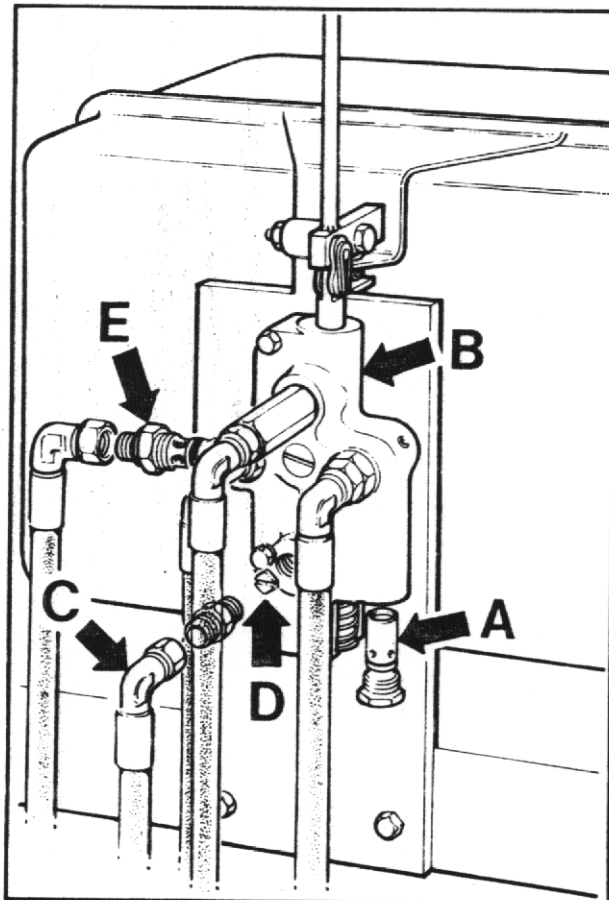

FIG. 7
4. Remove relief valve cartridge (A) (hexagon head) from the bottom of the control valve (B) (See Fig. 7), and replace with new one.
5. Remove hose adaptor (C) from control valve (See Fig. 7), remove hexagonal orifice plate (D) and wash in white spirit. Dry using moisture-free compressed air. DO NOT poke wire etc. into the orifice. Re-fit plate and hose adaptor with slot of orifice plate facing outwards.
6. Remove relief valve cartridge (A) (hexagon head) from the bottom of the control valve (B) (See Fig. 7), and replace with new one.
7. Replace flow control valve (E) (See Fig. 7).